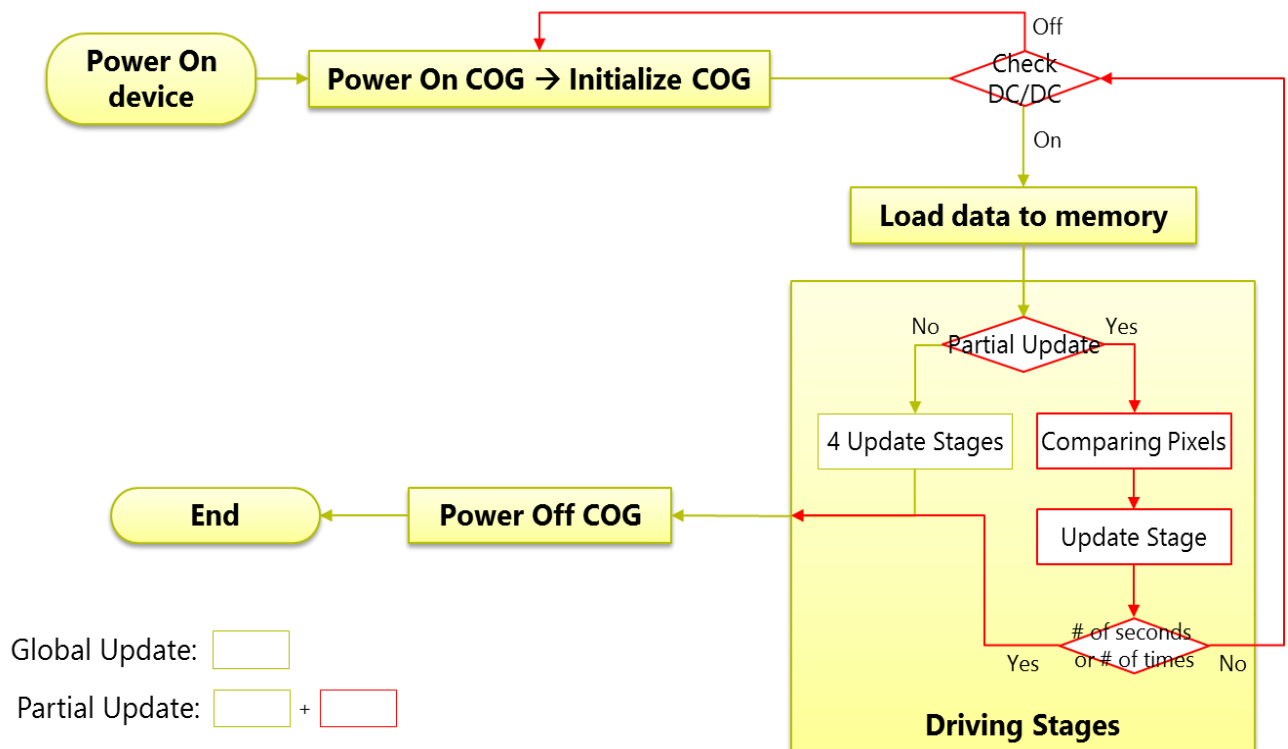

Figure 2.1 Driving flow chart of Global and Partial Update
The Figure 2.1 below is the EPD driving flow chart. The black line blocks are the Global Update stages which is described in PDI's COG document (Doc No. 4P008-00_03, Doc name is E-Paper Display COG Driver Interface Timing). The difference of Partial Update (shown in blue line blocks) is if there is next pattern to be updated on EPD, you are able to write next image data to memory and COG without powering off the COG for better visual experience and faster update time.
We highly recommend after several partial patterns have been updated on EPD or finished a demonstration cycle or after a short while without updates (means the “# of seconds or # of times” decision box in Figure 2.1. Please refer to FAQ (3)), it's suggested to perform a standard Global Update stage or Power OFF COG and Power ON while next update to get good optical performance back. It also improves the ghosting.
Refer to Table 1.1 and Figure 2.1, excluding the Power On, Initialize COG and Power off, the stage time of Partial Update is 1/4 of Global Update.